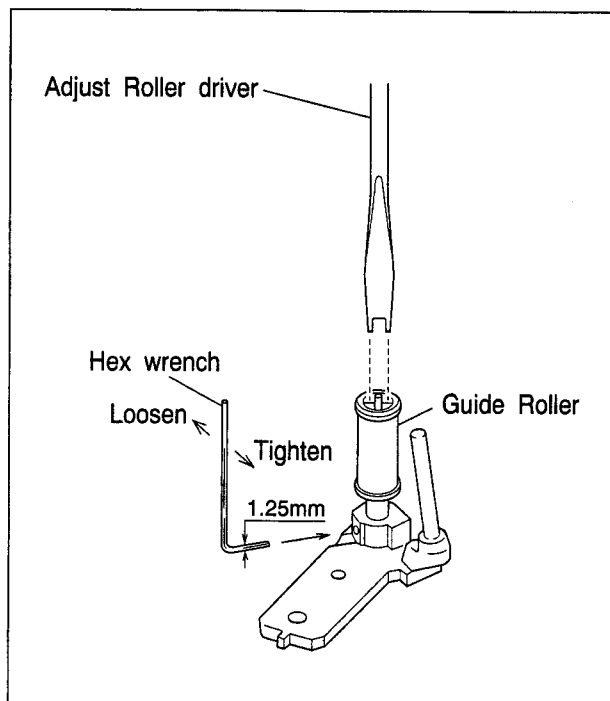
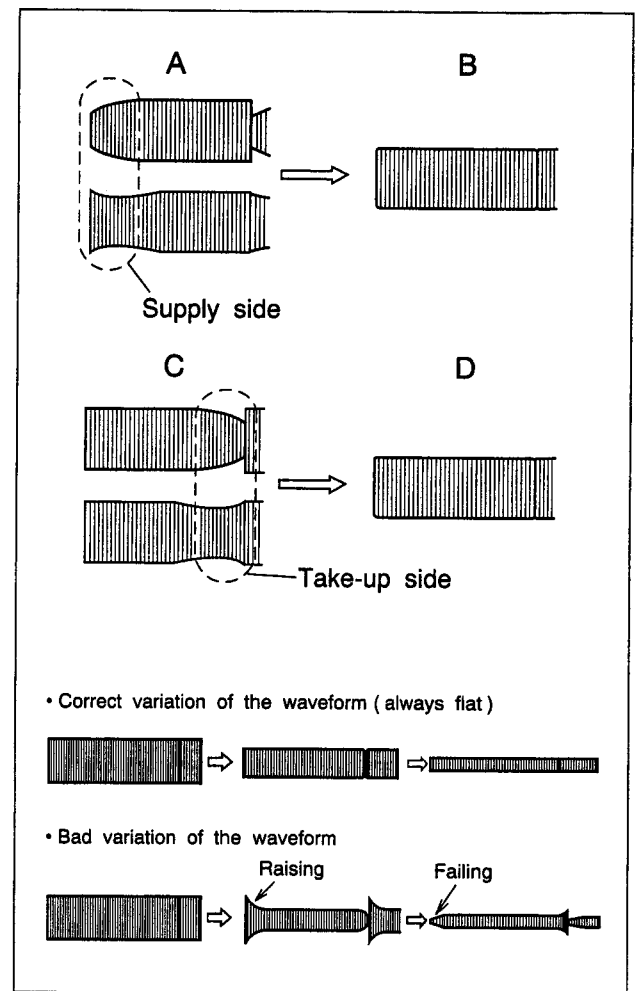
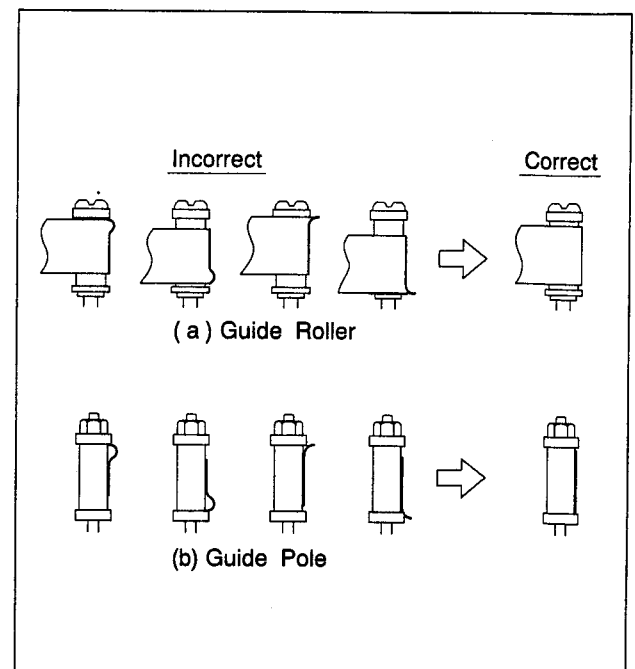

Fig. 2-7-2
Fig. 2-7-3
Fig. 2-7-4
- (6) When the FM waveform does not remain flat during this process, first slightly loosen the set screw located at the bottom of the guide rollers. Using the guide roller adjustment tool (Roller driver), adjust the supply and take-up guide rollers (refer to Fig.2-7-2) to obtain the correct waveform as indicated in Fig.2-7-3.
- (7) By pressing the tracking buttons several times, vary the FM waveform output from maximum to minimum (and vice versa) gradually, and confirm that the variation proceeds in flat shape, as shown in Fig.2-7-3.
- (8) Next playback the LP stairstep portion of the alignment tape [MHPE-L] and adjust the tracking control from maximum to minimum the FM waveform, confirm that FM waveform variation is always flat.
- (9) Record the signal and play it back in both of the SP and LP mode, confirm that the FM waveform is flat in both mode.
- (10) After adjustments, tighten the set screw of the guide rollers.
- (11) Confirm that the tape wrinkling does not occur at the roller upper or lower limits as indicated in Fig.2-7-4.